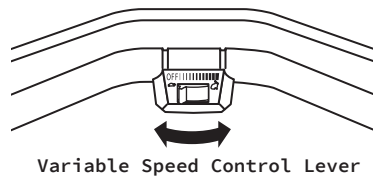

Fig. 9B
2. To increase the speed, slide the variable speed control lever to the right, toward the hare. To decrease the speed, slide the same lever to the left, toward the tortoise. (Fig.9B)
NOTE: When the variable speed control lever is pushed all the way to the OFF position, the self-propel function will stop (Fig.9B).